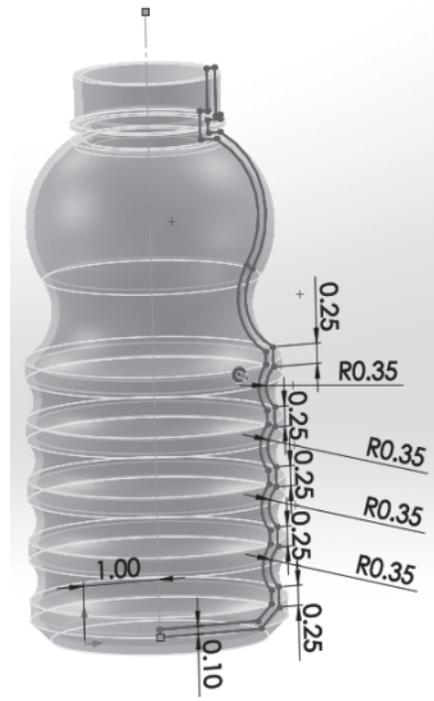

**Figure 4.22**
- 14** Create the CAD model of the football goal post shown in Figure 4.22. All dimensions are in inches. *Hint:* The dimensions of the post are per NFL specs: The post is 10 feet (120 in.) high, the crossbar is 18.5 feet (222 in.) wide from the inner edges of the uprights, and the uprights are 20 feet (240 in.) high. The diameter of the post tubes is arbitrary, so use 8 in. here.